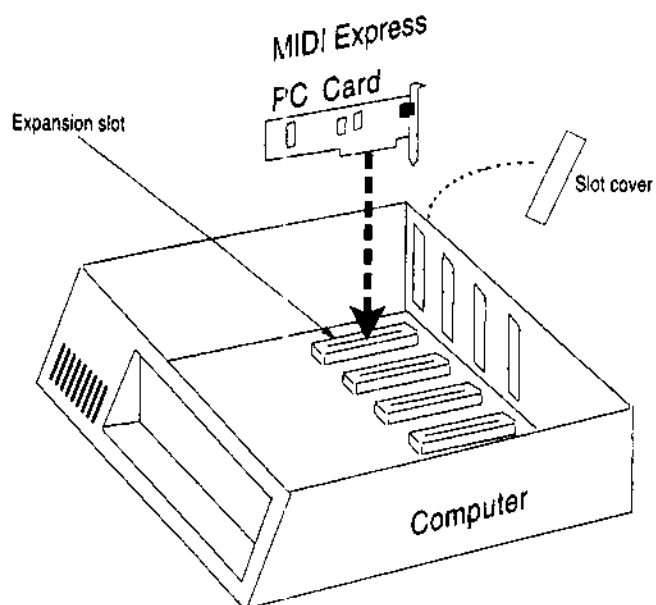

Figure 1-4 Installing the Express PC card into an expansion slot inside the computer.
7. Grasp the Express PC card by the edges and insert its contact tab into the expansion slot as shown in Figure 1-4 below.